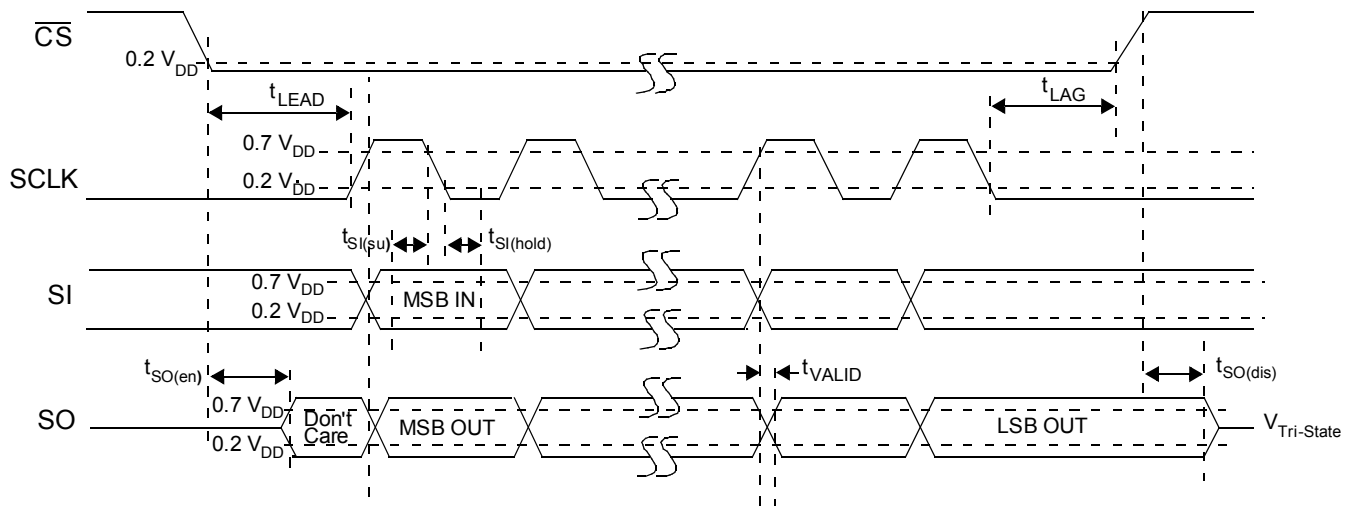

Figure 2. SPI Timing Characteristics
The Serial Input (SI) pin is used to enter one of seven serial instructions into the 33996. SI SPI bits are latched into the Input Shift register on each falling edge of SCLK. The Shift register is full after 24 bits of information are entered. The 33996 operates on the command word on the rising edge of \overline{CS} . To preserve data integrity, exercise care not to transition SI as SCLK transitions from high to low state (see Figure 2, page 8).